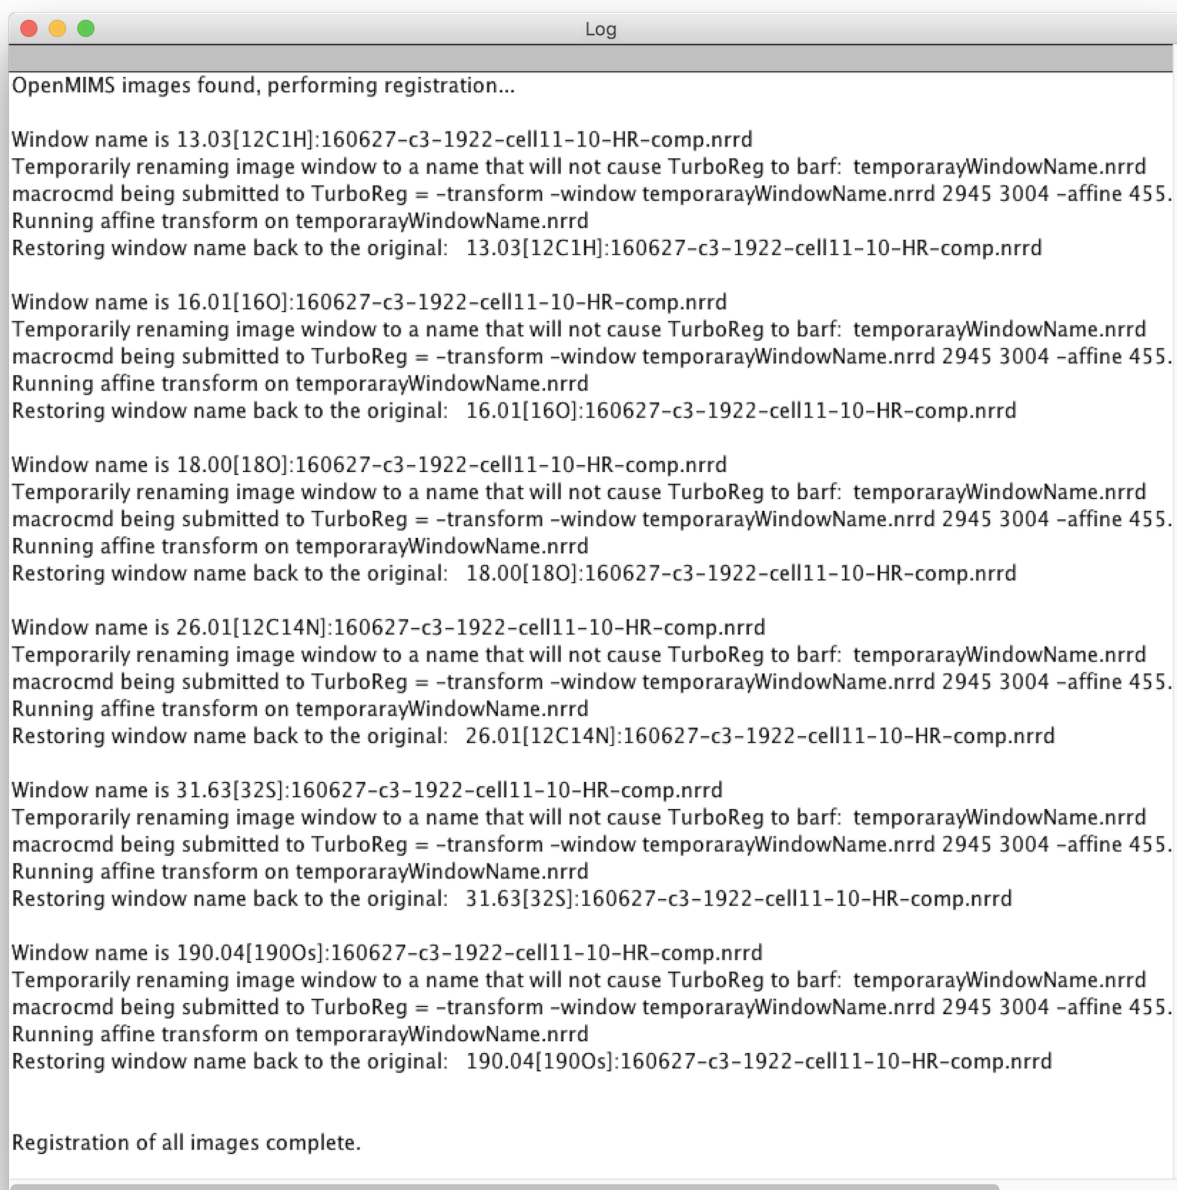

Figure 17: The MIMS Log Log window showing sample registration log information.
- After registration is complete, you should see output in the Log window somewhat like that shown in Figure 17.